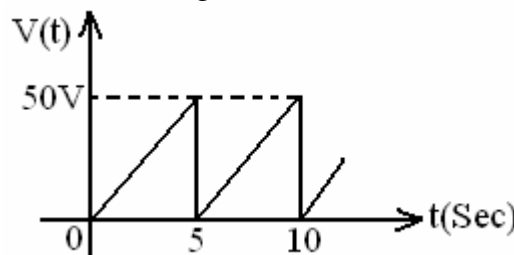

Figure 5
- 3.a) Find the effective value of the triangular wave form shown below in Figure 5.